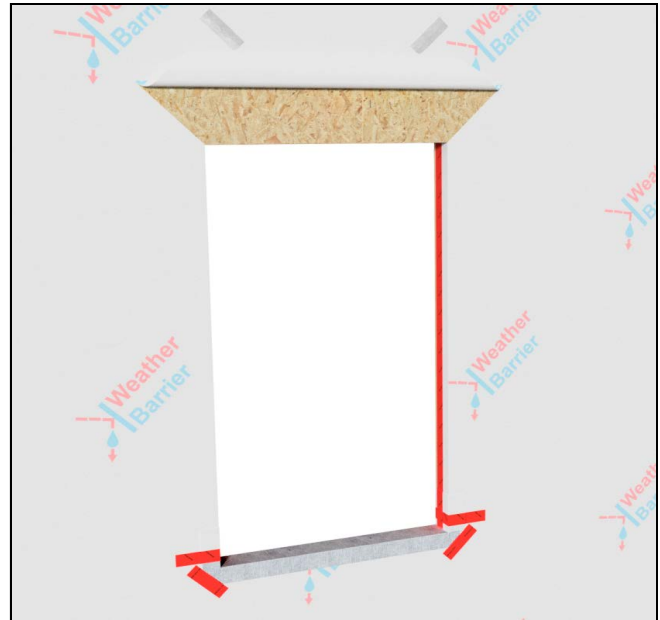

Figure 21
6. Apply seam seal tape over the corners. Place plastic or composite shims at the ends and in the middle of the RO to counter the slope of the sill wedge and support the unit. Fasten with adhesive or finish nails. If using finish nails, place adhesive under shim where the nail will penetrate. See Figure 21.